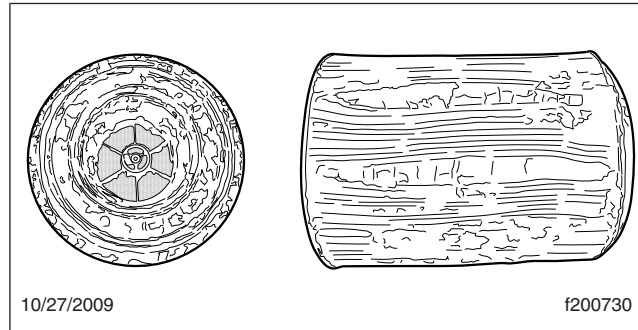

Fig. 2, Filter with Gel and White Residue
4. If there is a buildup of white residue and gel on the filter and in the filter housing, follow the repair procedure below. See Fig. 2 for white residue build up with gel.